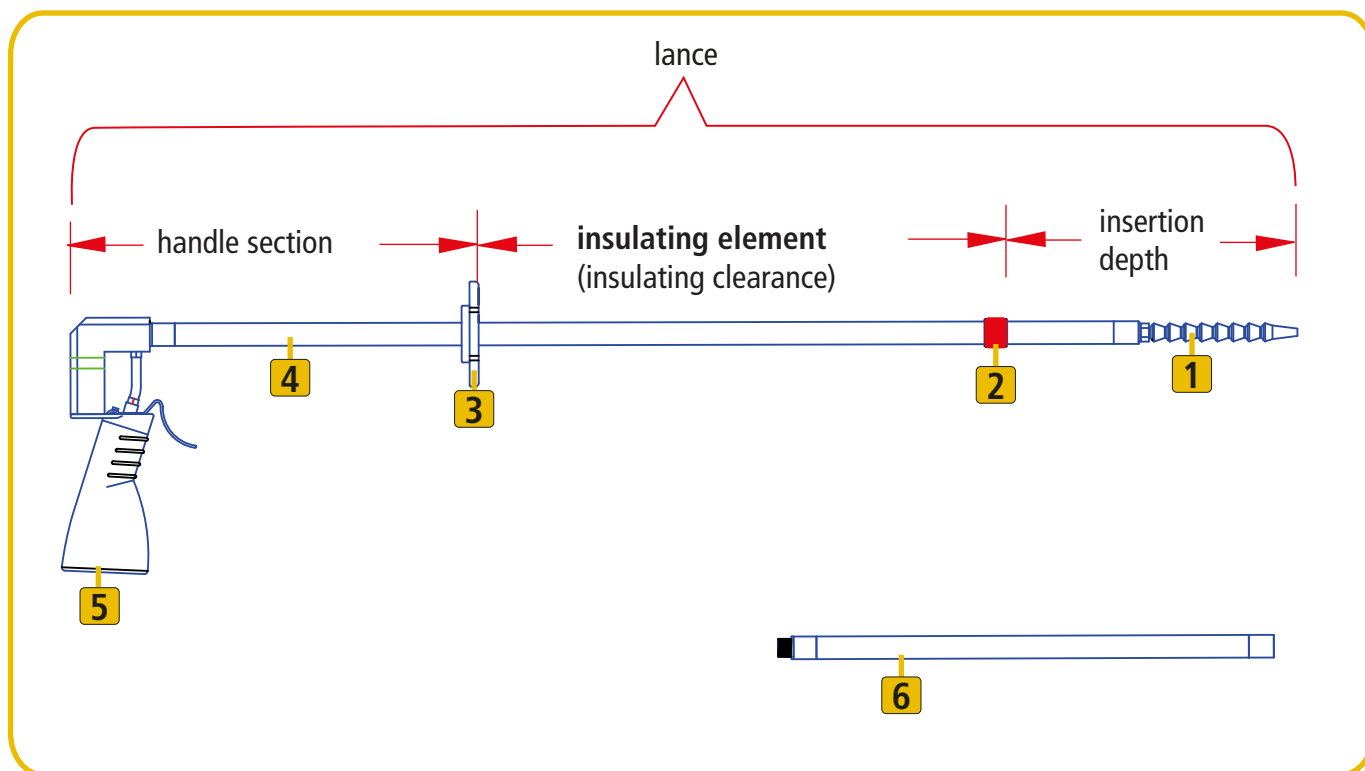

Fig. 1
HOEL 36 20 1100 hand oilers consist of an oil container, a lance, max. two **VL HOEL 20 500 extensions** and a movable attachment with nozzle (see Fig. 1).
To refill lubricants, unscrew the oil container from the handle by turning it anticlockwise. After the refilling process, screw the oil container to the handle (hand-tight) again (see Fig. 1).
4. Notes for safe use (see also Fig. 1, page 5)
The **hand guard** and the **red ring** limit the **insulating element** (insulating clearance) of the **HOEL 36 20 1100 hand oiler** (see Fig. 1, page 5).